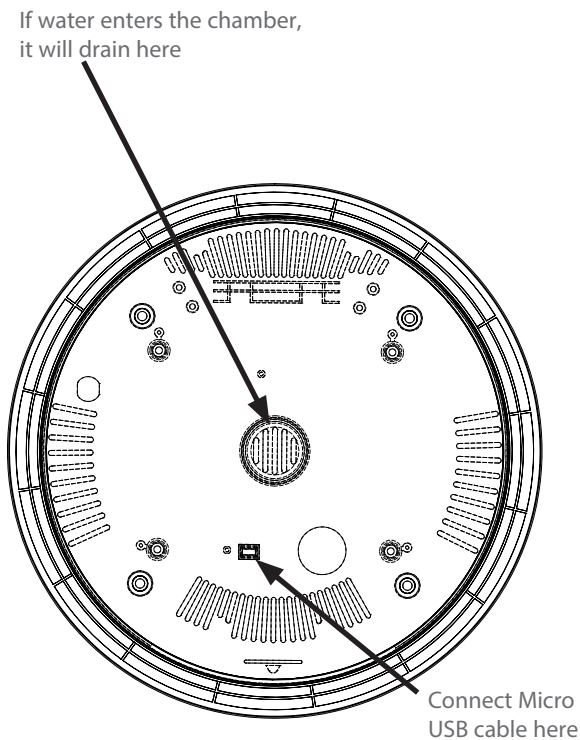

Figure 5: Micro USB Connector
CAUTION: The SinAqua™ Souper™ is designed to operate without water and does not employ steam to heat food. If water is allowed to enter the chamber wherein the tureen is placed, whether by way of operational error or for cleaning purposes, the water will drain below the Souper™ unit (see Figure 5, page 4).
1. Connect the Micro USB cable to the Souper unit (Figure 5, below).
CAUTION: The SinAqua™ Souper™ is designed to operate without water and does not employ steam to heat food. If water is allowed to enter the chamber wherein the tureen is placed, whether by way of operational error or for cleaning purposes, the water will drain below the Souper™ unit (see Figure 5, below). When installing the drop-in Souper™ unit, plan accordingly.
⊘ DO NOT pour water into the chamber that is intended for the tureen. Water will drain (see Figure 5, page 4).